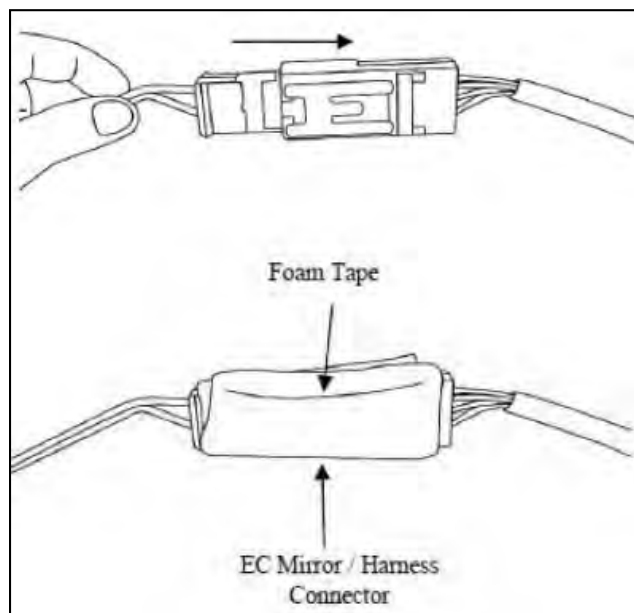

Figure 10
10. Connect the mirror harness to the mirror main power harness. Make sure both connectors are fully engaged. Wrap foam tape around connectors. See Figure 10.